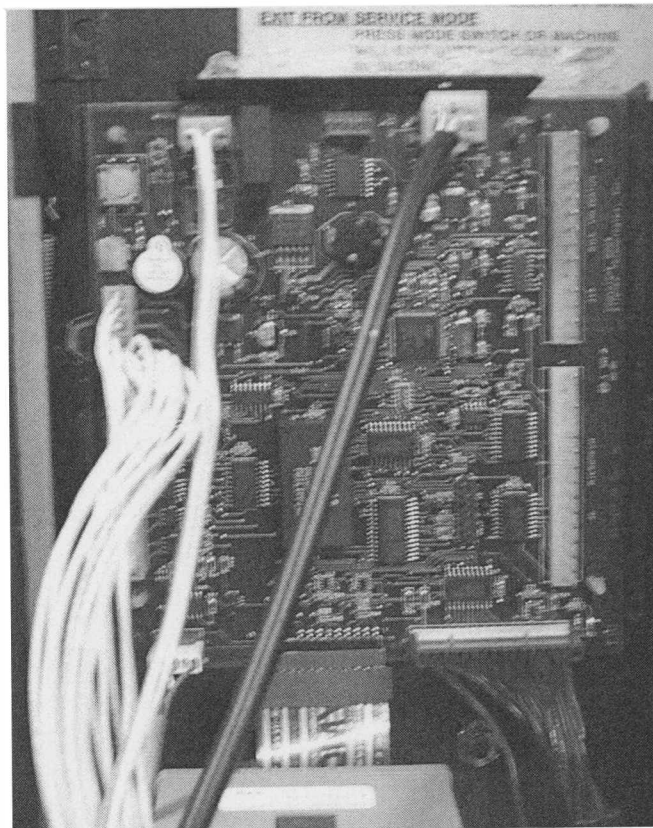

Figure 6. (set up is for MDB)
6. Connections to the board may now be made. Shown below in Figure 6.